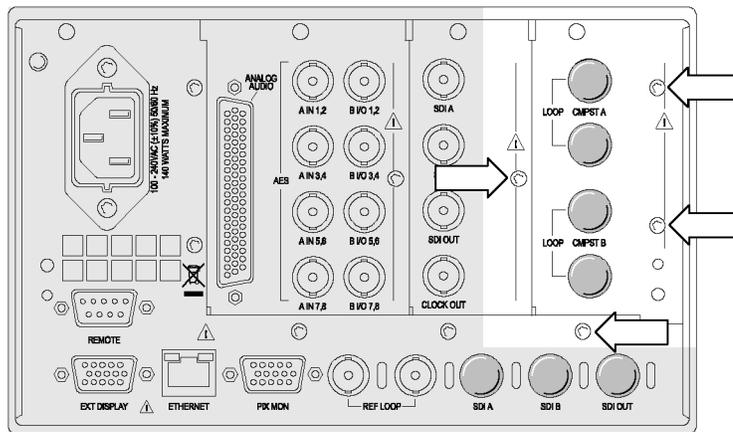

Figure 10: Removing the Option CPS rear-panel screws
1. Remove the four screws from the Option CPS rear panel. (See Figure 10.) Then remove the panel. Save the screws for reinstallation.